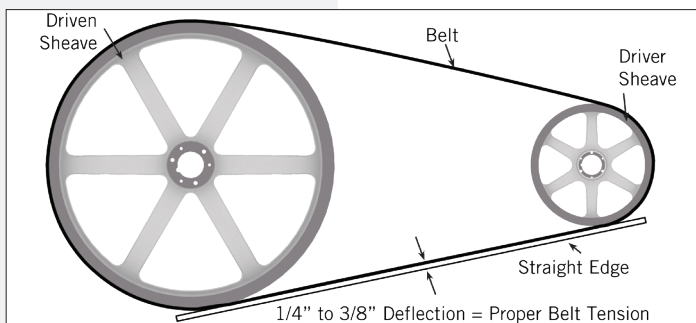
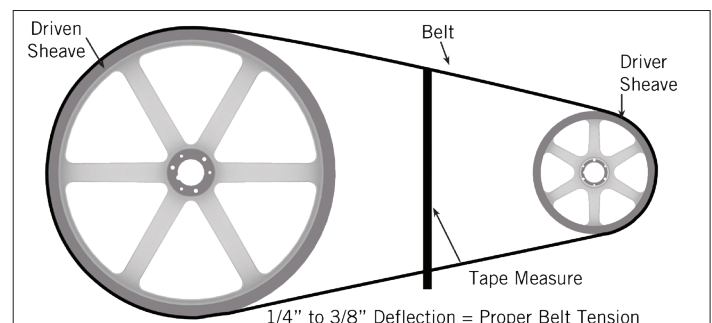

Figure 3a. Belt Tension with a Straight Edge
Figure 3b. Belt Tension with a Tape Measure
- Place a straight edge along the belt from sheave to sheave as shown in **Figure 3a**, or use a tape measure as shown in **Figure 3b** to measure belt deflection.
- There is adequate belt tension if the belt deflects between $1/4''$ and $3/8''$ as shown in **Figures 3a** and **3b**.